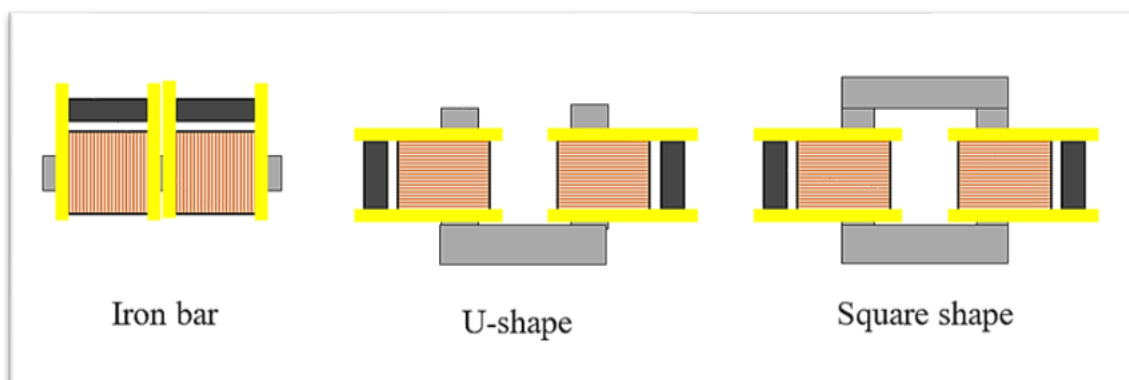

Fig. 3: Core configurations
- 4- Repeat step 3, changing the core configuration as shown in **Fig.3**.